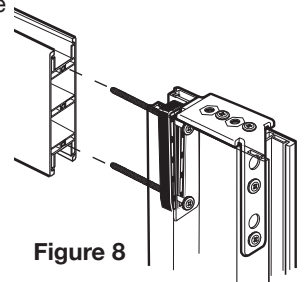

Figure 8
Place the end of the Top rail (C) against the screws, lining up the holes in the extrusion. Once in place, continue tightening screws until stile and rail are flush and secure. This will be the top of the door. See Figure 8.